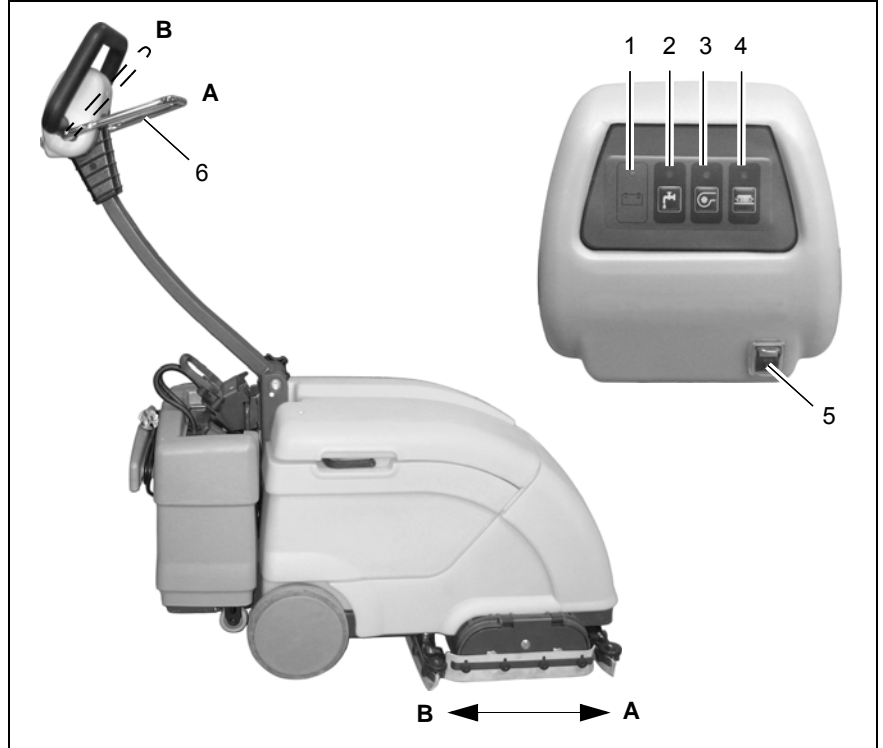

Fig.10
1. Switch the machine on and ready to operate using the main switch (Fig. 10/5).
2. Check the battery indicator (Fig. 10/1), recharge the batteries as necessary; refer to Section 5.4.2.
3. Press the button (Fig. 10/3) to switch on the suction turbine.
4. Press the button (Fig. 10/2) to switch on the solution supply (with cleaning agent, if necessary).
5. Press the button (Fig. 10/4) to switch on the brushes and move the machine.
- Forward operation (A):
Release lever (Fig. 10/6) and push the machine.
Pull lever (Fig. 10/6) and draw the machine back.